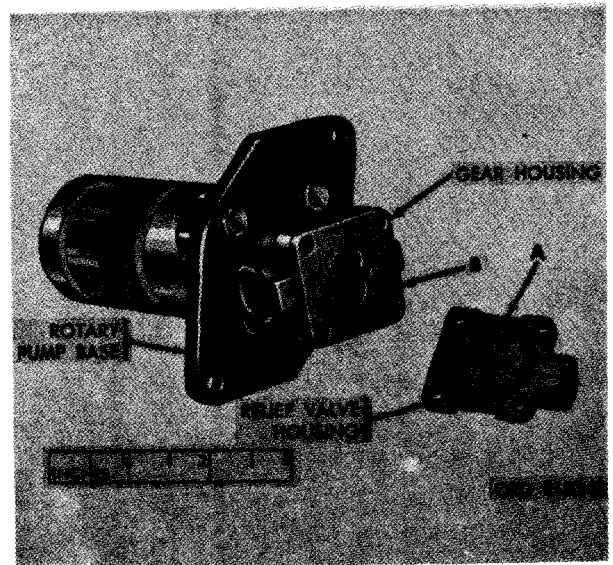

FIGURE 415. REMOVING OR INSTALLING GEAR HOUSING.
- (1) Figure 415. (A) Remove 43/64 id x 0.070 thk preformed packing from relief valve housing and discard packing. (B) Remove gear housing from rotary pump base.